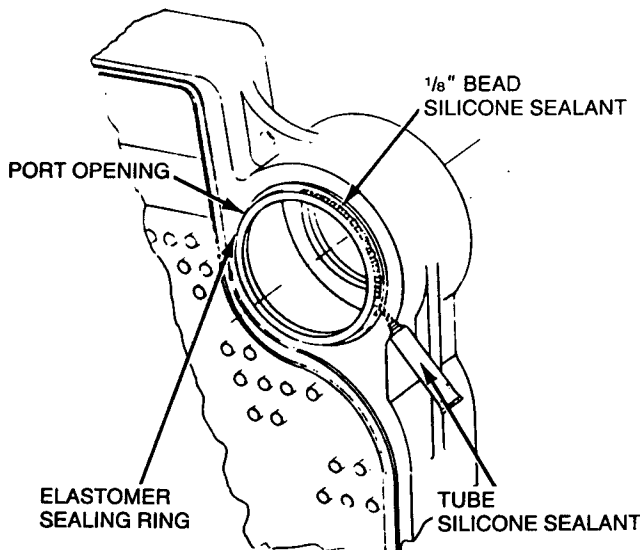

FIGURE 3
5. Unburned oil vapors can cause failure of the elastomer sealing rings. After the elastomer sealing rings have been set in the port openings of the section, make a 1/8" diameter continuous bead of silicone sealant around the outside of the rings. Follow this procedure for each sealing ring installed (see FIGURE 3).